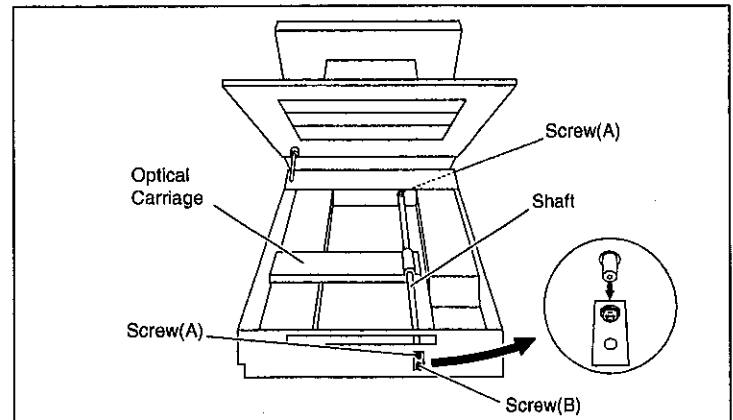

Fig. 8-23
- 3) Remove 2 screws(A) and Loosen screw(B) and pull out Shaft, as shown in Fig. 8-23.